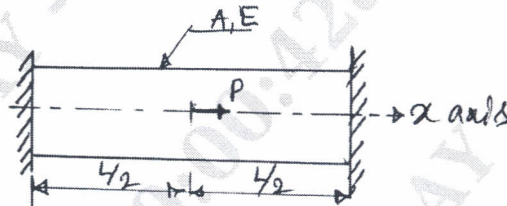

Fig.Q.2(c)
- c. Determine the expression for displacement in bar subjected to load P as shown in Fig.Q.2(c) by RR method.